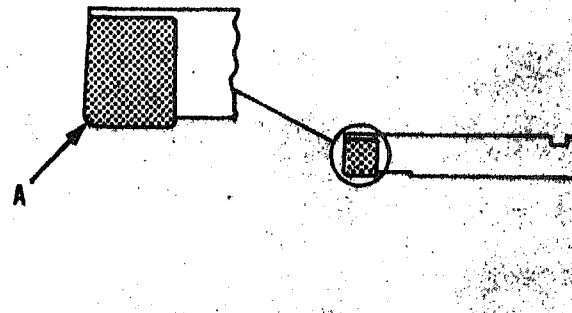

Fig. 1-1-19. Counterboring tool bit specifications
- b. A correctly ground tool bit is shown in Fig. 1-1-19. Point is 0.008/0.012 in. [0.2032/0.3048 mm] radius; side surface must be ground flat to sharpen.